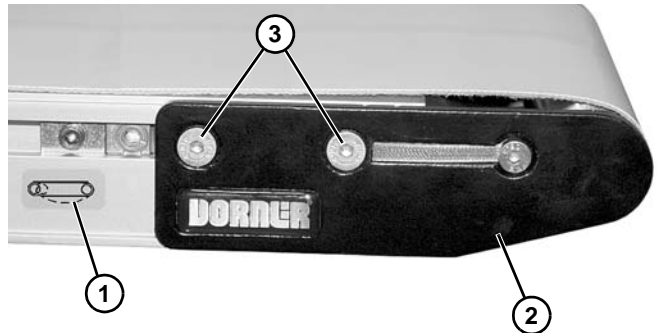

Figure 6
2. On tension end of the conveyor, identified with  a label (**Figure 6, item 1**), push in headplate assembly (**Figure 6, item 2**): On both sides of conveyor, loosen fastening screws (**Figure 6, item 3**) and push headplate assembly inward.